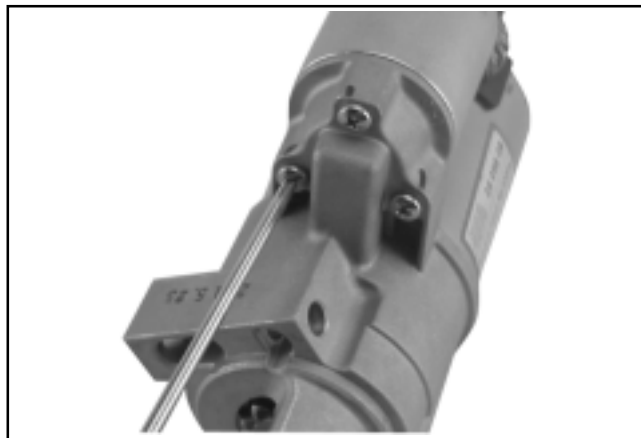

Figure 8-41. Installing Solenoid Screws.
13. Hook the plunger behind the upper end of the drive lever, and install the spring into the solenoid. Insert the three mounting screws through the holes in the drive end cap. Use these to hold the solenoid gasket in position, then mount the solenoid. Torque the screws to **4.0-6.0 N•m (35-53 in. lb.)**. See Figure 8-41.